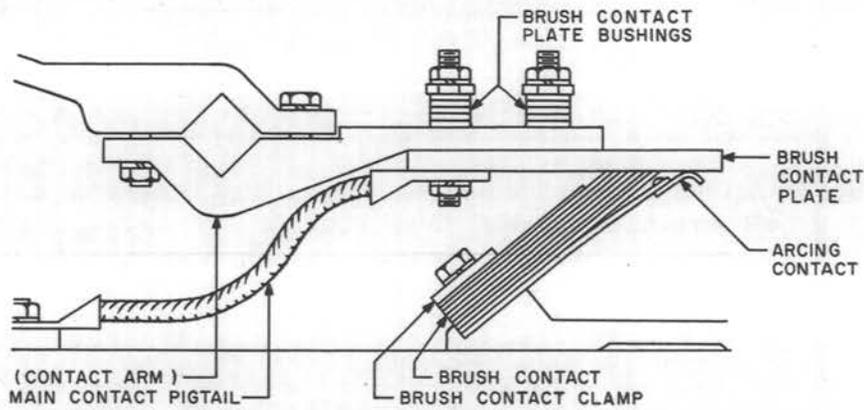

Fig. 8 - Main Contact Structure of 150-Ampere Contactors
**3.08 Brush Contacts** — See Fig. 8, 9, and 10
**3.09 Brush Contact Plate** — See Fig. 8